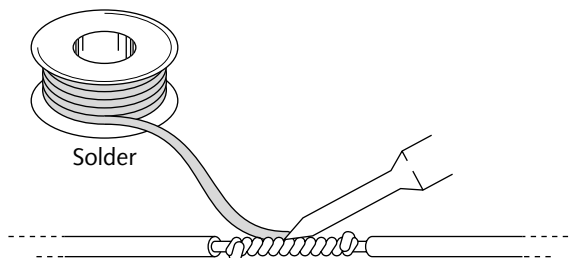

FIGURE 8-4: Applying solder
4. After two to three seconds, touch the end of the solder strand to the hot junction (see Figure 8-4).